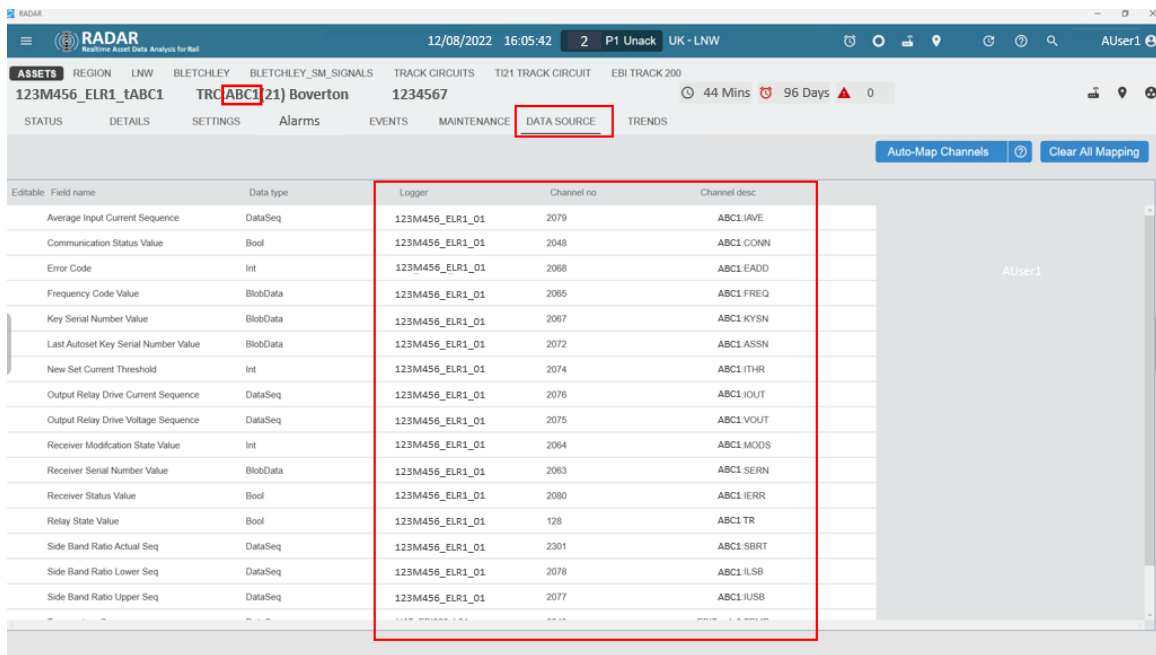

Figure 3 - Screen shot showing Setup
8.6 Check that the asset monitoring is correctly set up and calibrated. See Figures 3 and 4.